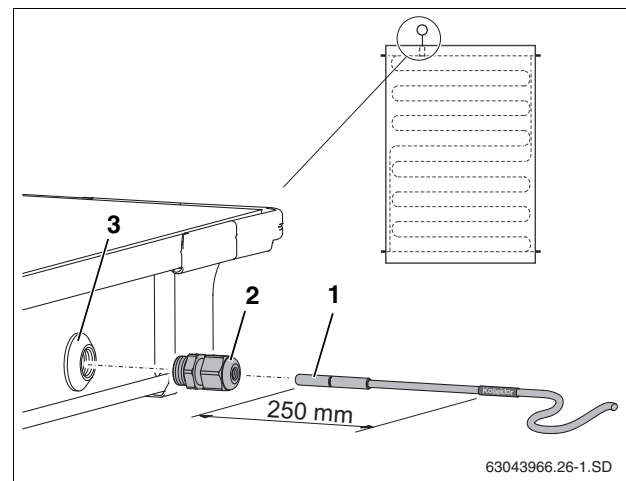

Fig. 48 Inserting the collector sensor into the sensor well
The collector sensor (Fig. 48, [1]) must be inserted into the sensor well as far as it will go (approx. 10" (250 mm)).
- Using a pointy device penetrate the membrane on the outside of the sensor well (Fig. 48, [3]).
- Screw strain relief (Fig. 48, [2]) into sensor well.
- Tighten strain relief by hand (Fig. 48, [2]).
If by accident the membrane (Fig. 48, [3]) of the wrong collector was penetrated, cap it by pushing a black collector connection cap onto the well. For that the nut installed at the outside of the well must be removed.